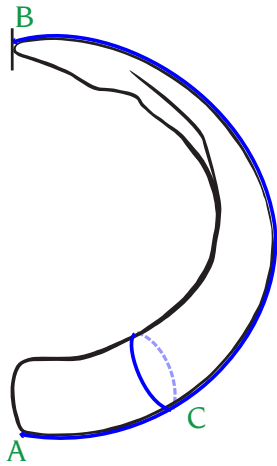

Figure 1 Wild Boar
1. Length. Measure the length of the two longest tusks on the outer curve from the base to the tip. (Figure 1, A–B). Do not card off. (See General Instructions.)
2. Circumference. Measure the circumference of each of the longest tusks at its largest point and at a right angle to the axis of the tusk. (Figure 1, C) Typically this is somewhere between the gumline and the halfway point on the tooth. If there are any grooves in the teeth, the tape measure must span the grooves; the tape measure must not be pressed into any depressions. (Figure 1)